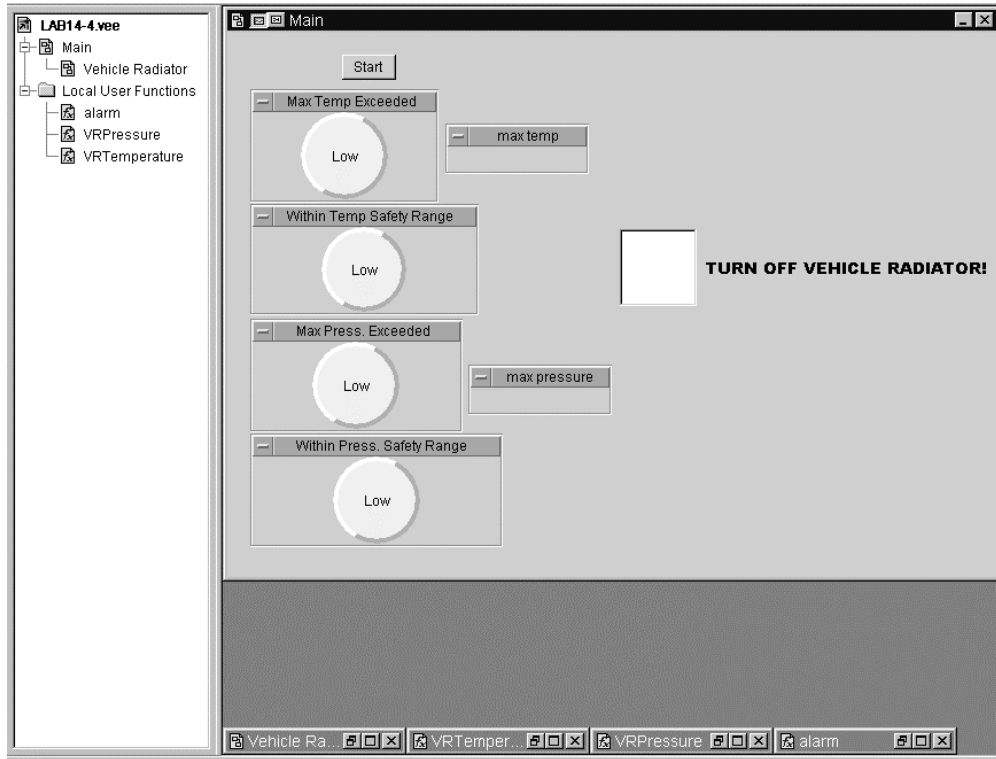

Figure 14.19. Lab14-4 operator interface
61. Arrange the objects as shown in Figure 14.19.